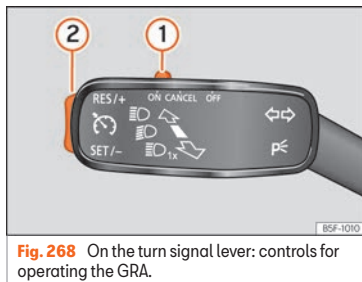

Fig. 268 On the turn signal lever: controls for operating the GRA.
- Move the control » **Fig. 268 ①** to **ON**.
- Press button » **Fig. 268 ②** in area **SET/-**.
- Move the control » **Fig. 268 ①** to **CANCEL** or step on the brake.
- Press button » **Fig. 268 ②** in area **RES/+**.
While the GRA is set, the stored speed can be adjusted with button » **Fig. 268 ②**:
- To increase in increments of 1 km/h (1 mph) briefly press button » **Fig. 268 ②** in the area **RES/+**.
- To increase the speed without interruption, keep button » **Fig. 268 ②** pressed down in the area **RES/+**.
- To reduce in increments of 1 km/h (1 mph) briefly press button » **Fig. 268 ②** in the area **SET/-**.
- To reduce the speed without interruption, keep button » **Fig. 268 ②** pressed down in the area **SET/-**.
- Move control » **Fig. 268 ①** to **OFF**.